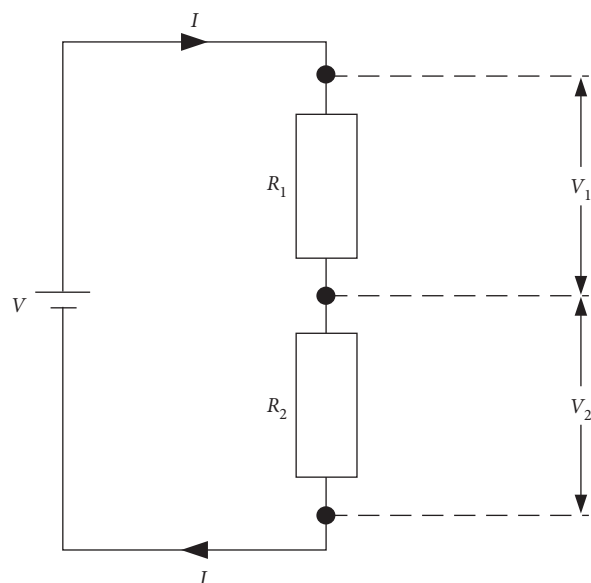

Figure 1
- 1 Set up the circuit shown in Figure 1 with  $R_1$  as the 150  $\Omega$  fixed resistor and  $R_2$  as a variable 150  $\Omega$  resistor.